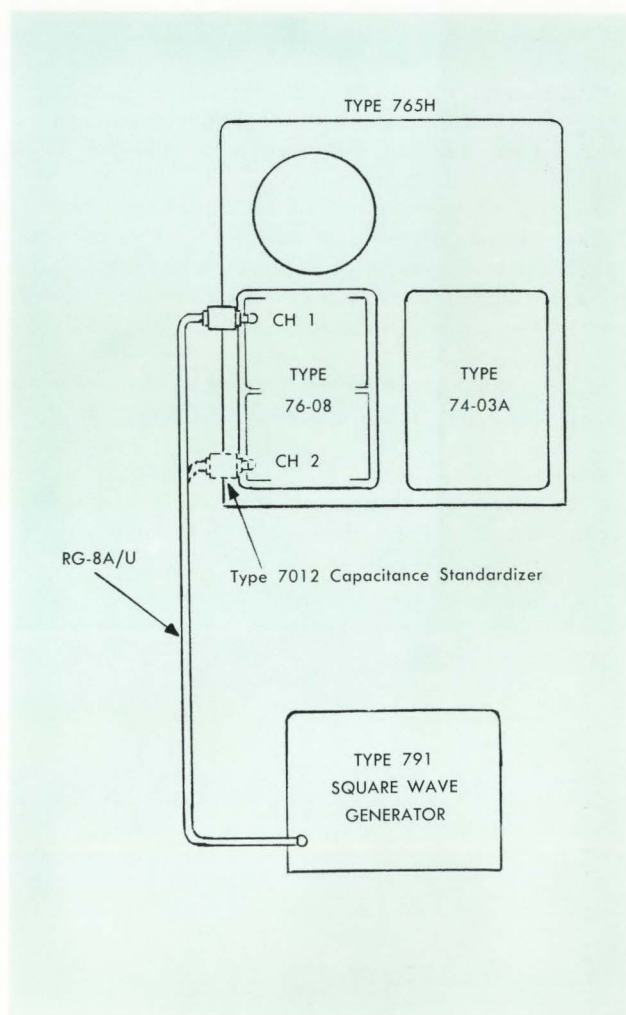

Figure 5-3. Test Setup for Adjusting Input Capacitance
5-12. INPUT CAPACITANCE STANDARDIZATION AND ATTENUATOR ADJUSTMENT (Figures 5-3 and 5-4)
4. Apply the output from a Fairchild Type 791 Square Wave Generator SOURCE IMPEDANCE switch set to 50 ohms through an RG-8A/U 50-ohm cable, through the 23-picofarad Capacitance Standardizer to the Input connector on the Type 76-08. See Figure 5-3.